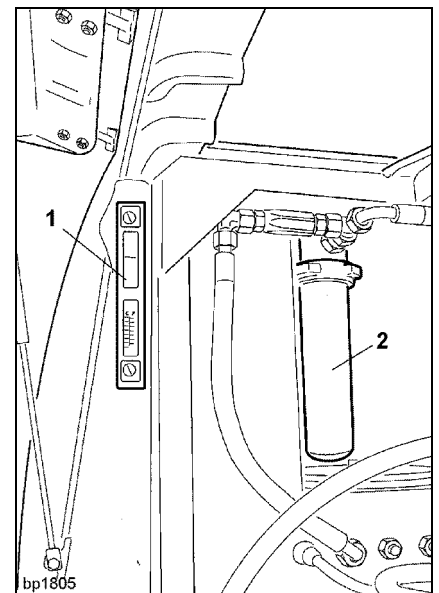

Fig. 2
The oil level must be visible at the top of the sight glass (1) (Fig. 2) when the drive is not running.